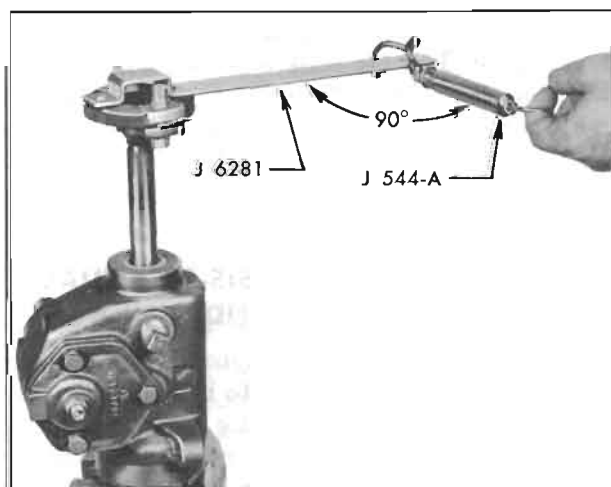

Figure 8-4—Checking Thrust Bearing or Lash Adjustment with Scale
1. Place manual steering gear in vise with worm shaft up. Then install Over-Center Adjuster J-6281 on flexible coupling. See figure 8-4.